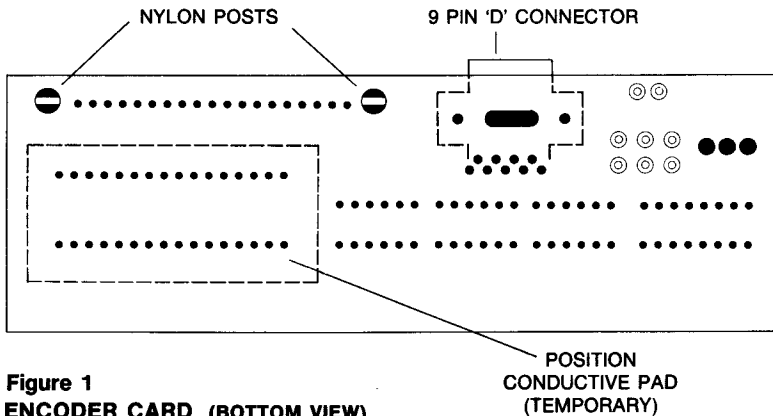

Figure 1
- 4.** Move base to one side and position Apple upside down with keyboard nearest you. The KeyPad connector must be installed on the 2" x 6½" sub-panel to the keyboard assembly. The bottom of the sub-panel is illustrated in Figure 1.
5. Affix the conductive foam pad temporarily with sticky tape over the two rows of 20 solder points located left center on the sub-board. (See Figure 1.) This will protect the CMOS encoder chip from static damage during the installation. (PAD MUST BE REMOVED WHEN INSTALLATION COMPLETE.)
6. Remove the sub-panel from the keyboard by carefully squeezing the spread top of each of two nylon attaching posts. (See Figure 1.) Once clear of the spread post tops the board may be easily pulled up and clear.